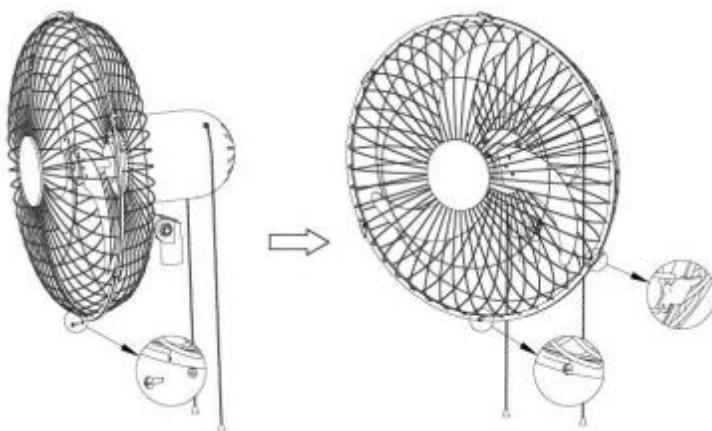

Fig.7.
3). Align the screw holes at the bottom of the front and rear grilles, then fasten the buttons on the top of the front grille cover to the back grille cover,fasten all the grille cover button, and finally lock the safety screws(18).See the (Fig.7.)